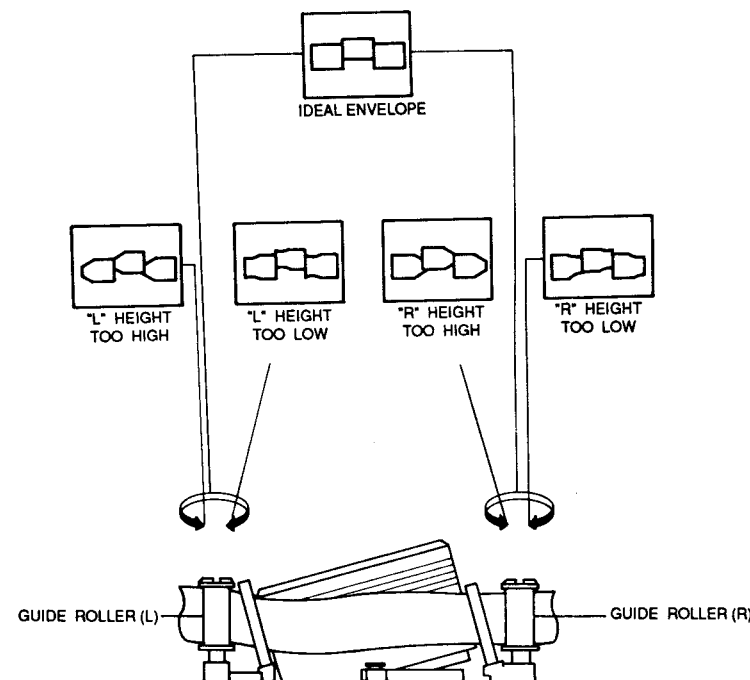

Fig. 13 S, T-Guide Roller Height Adjustments
9. Turn the guide roller heads with a flat head (■) screw driver to obtain a flat video RF envelope as shown in Fig. 13.